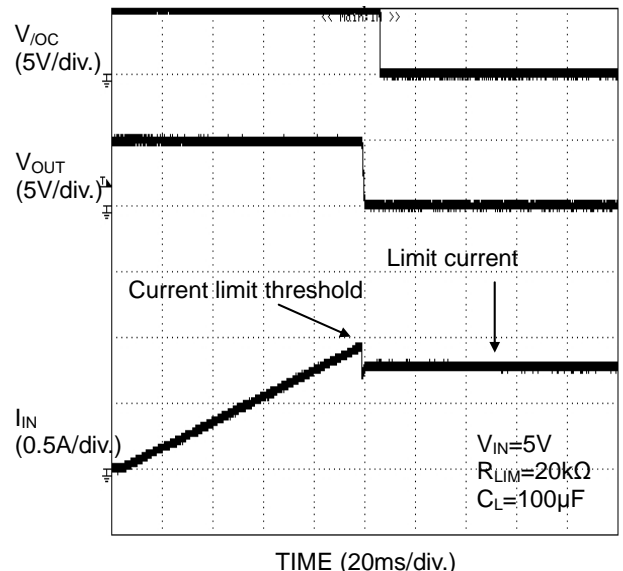

Figure 40. Over Current Response Ramped Load
(3) When the output current increases gradually, current limitation would not operate unless the output current exceeds the over-current detection value. When it exceeds the over-current detection value, current limitation is carried out. (See Figure 40.)